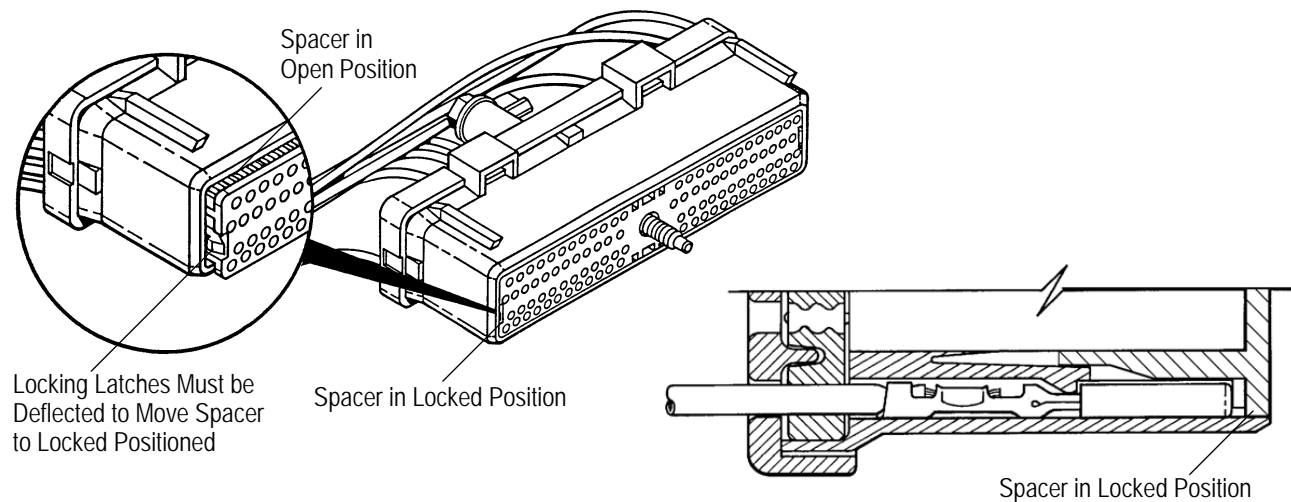

Figure 3
3. After all required contacts have been inserted, the spacer must be closed to its locked position. The locking latches must be released by squeezing them inward and sliding the spacer forward until it is flush with the housing. See Figure 3.